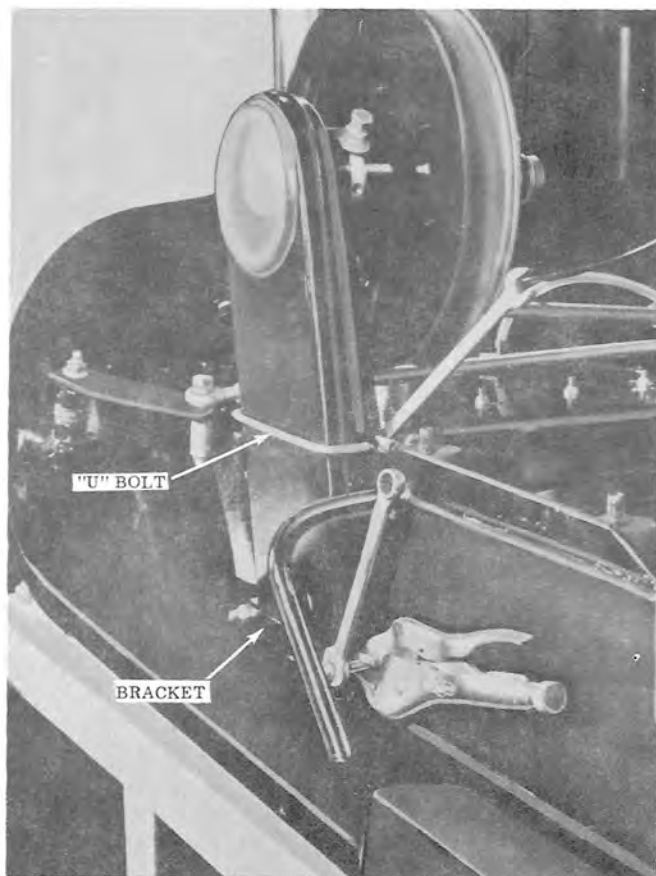

Figure 2
4. Loosen bracket located at bottom of chain housing (See Figure 2). Use vice grips to hold bolts while loosening nuts. Remove only one completely. Swing bracket back to free bottom of chain housing.
5. Remove "U" bolt completely (See Figure 2) by removing two nuts. Figure 2 shows wrenches on fasteners to be removed.